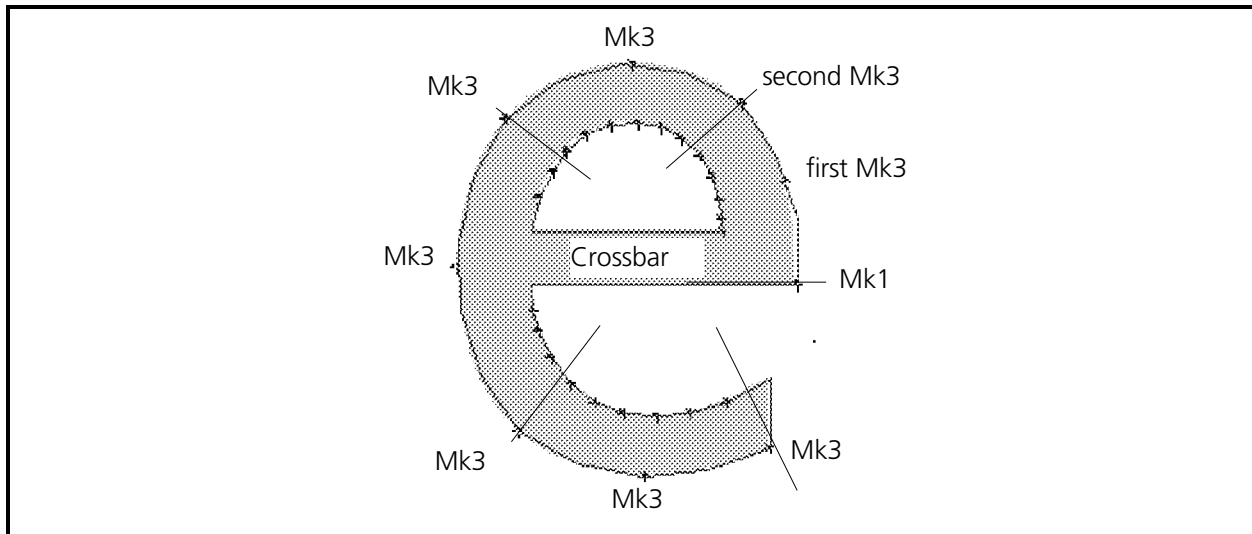

Figure 6-34
Rule one states to always begin with a Mk1. The beginning Mk1 has already been put at the lower right corner of the crossbar of the letter **e** (see step 6 in the previous section and Figure 6-34).
1. Click on the Mk3 push button in the Object Edit toolbar then enter a Mk3 in the middle of the first arc segment and another Mk3 at the location between the first and second arc segments (see Figure 6-34).